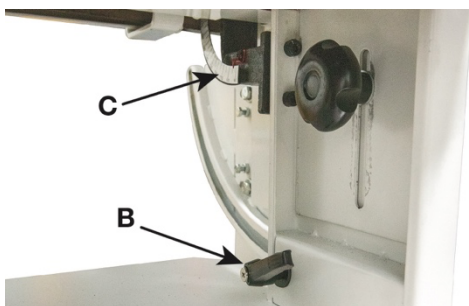
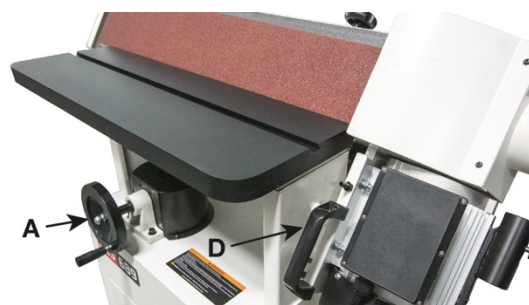

Figure 9-1
Figure 9-2
Refer to Figures 9-1 & 9-2:
2. Lower the table to the lowest position using the table adjustment handwheel (A, Figure 9-2). This will keep the sanding platen from contacting the table edge when the angle is adjusted.
3. Loosen locking handle (B, Figure 9-1).
4. Using the tilting handle (D, Figure 9-2), rotate sanding platen to the desired position. Use the angle readout gauge on underside of platen to set desired angle (C, Figure 9-1). For precise angles, use a combination square between the table and sanding belt.
5. Hold the platen in place and tighten the locking handle (B, Figure 9-1) to lock the platen assembly in place.